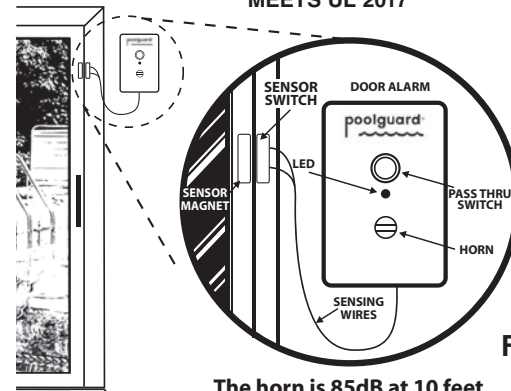

Figure 1
2. INSTALLING POOLGUARD DOOR ALARM (FIGS. 1 & 2)
- Install the Sensors Vertically (as shown in Figure 1) or Horizontally. Maximum space between sensors is 1+1/4". **IMPORTANT:** If you install the sensors Horizontally at the top of a SLIDING door, spacing between the sensors needs to be between 1" and 1+1/4".
4. OPERATING YOUR DOOR ALARM (FIG. 1)